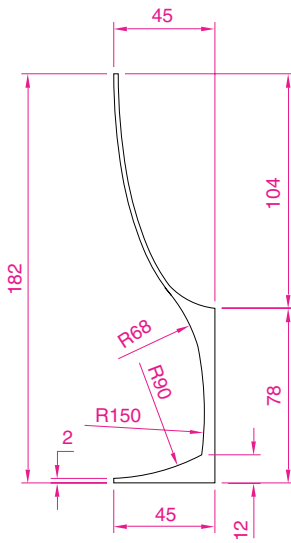
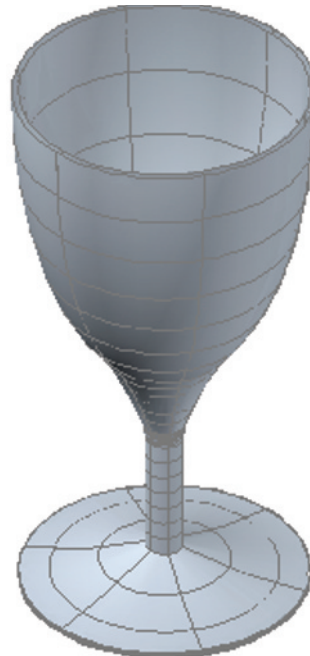

Fig. 13.43 Exercise 4 – outline drawing
Fig. 13.44 Exercise 4
4. Construct the 3D model of a wine glass as shown in Fig. 13.44, working to the dimensions given in the outline drawing in Fig. 13.43.